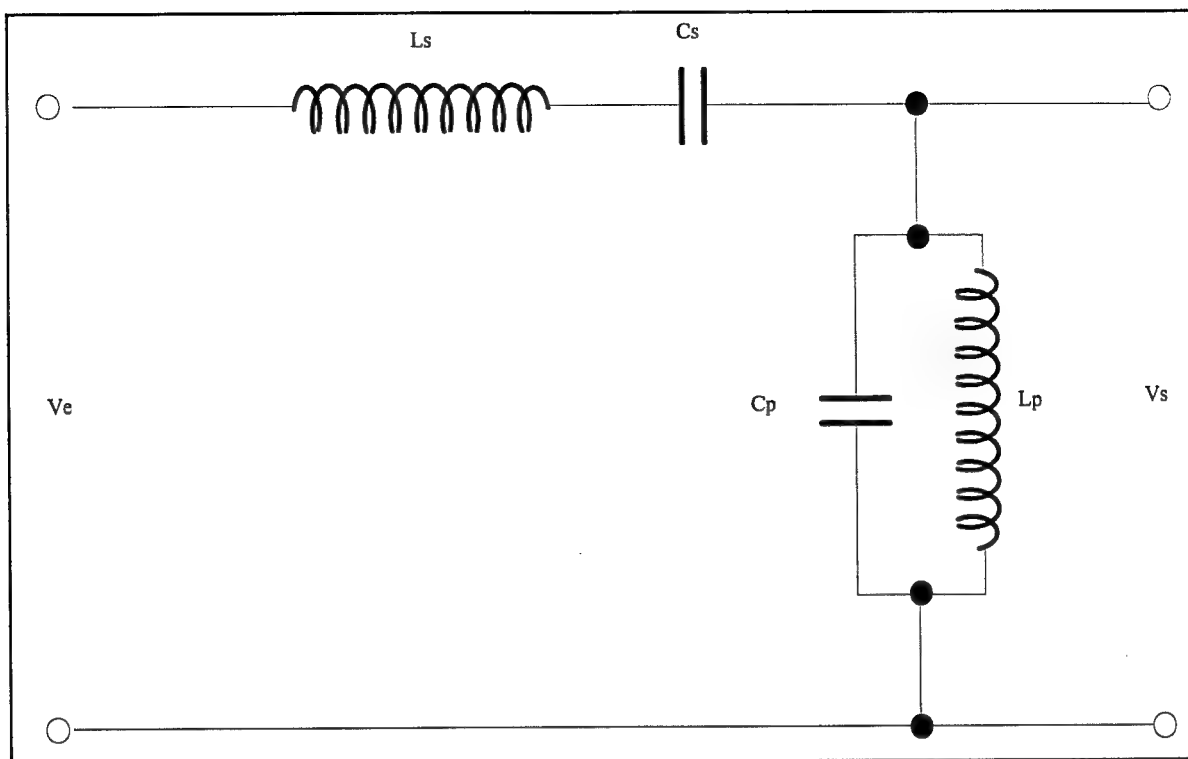

Figure 4 - filter
b) Carrier signal filtering (fig. 4)